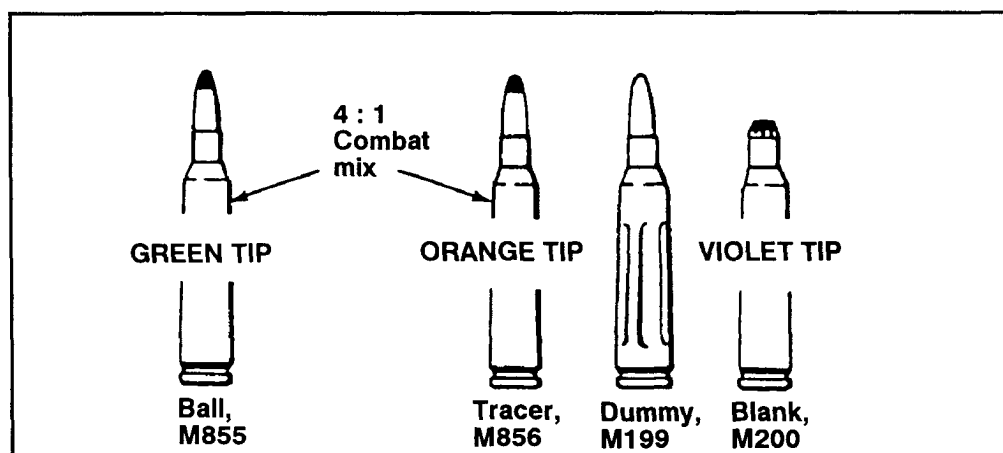

Figure 1-5. Cartridges for the M249.
a. **Type and Characteristics.** The specific type ammunition (Figure 1-5) and its characteristics are as follows.